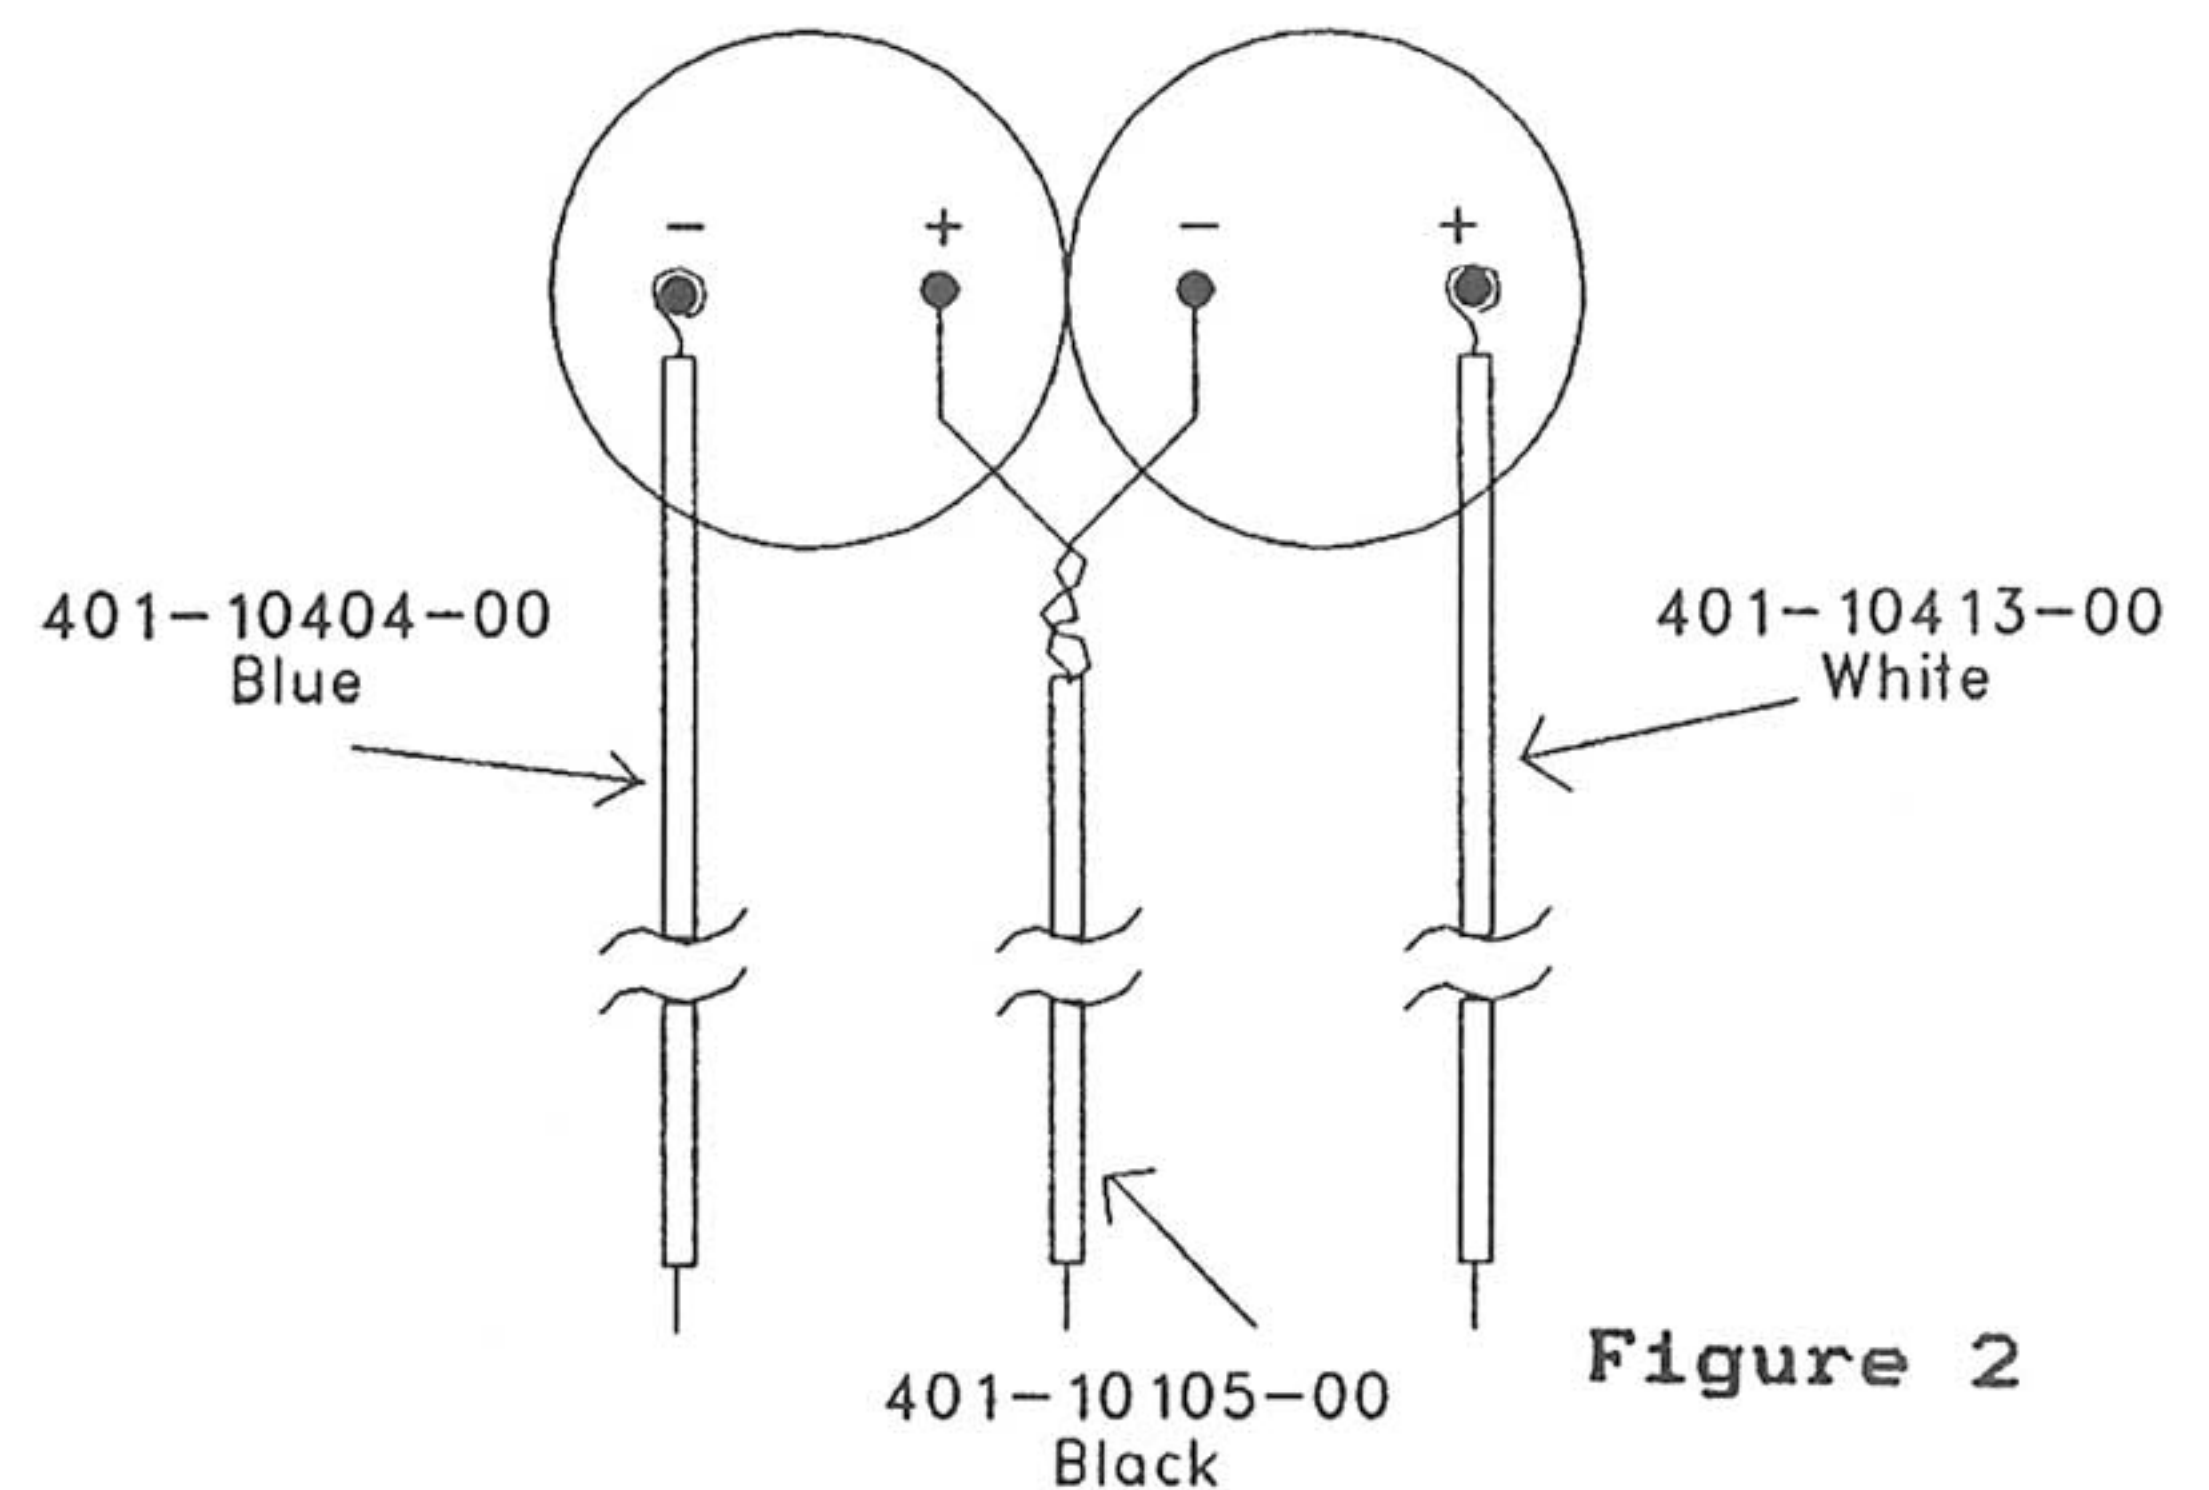

Figure 2
- 2) Attach wires to cap assembly as shown in Figure 2. Make sure wires are as close to the cap body as possible.